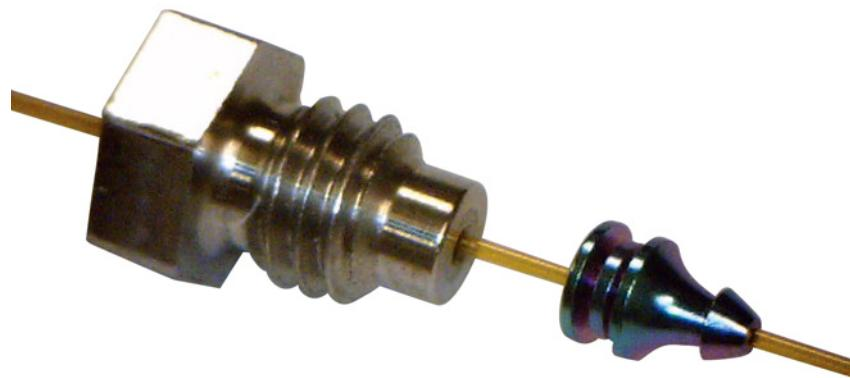

Figure 10. Ferrule swaged to column and internal nut
- 7 Using the 1/4-inch open-ended wrench, turn the internal nut an additional 15 to 20 degrees clockwise to assure the ferrule is properly swaged onto the column. See Figure 10.